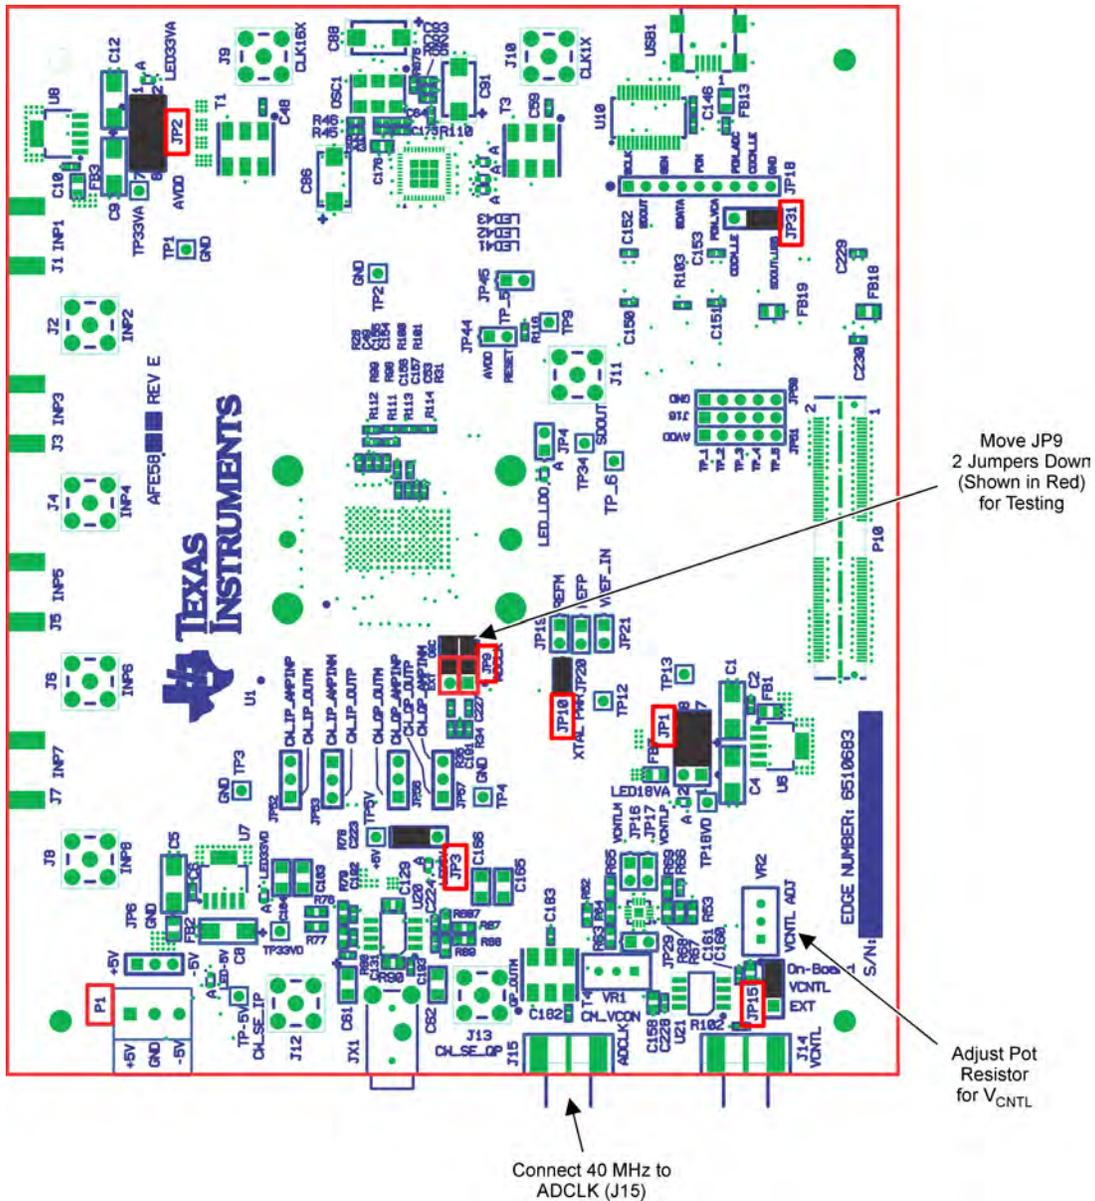

Figure 1. AFE5803EVM Basic Configuration
Figure 1 shows the default configuration of the EVM from the factory. The accompanying list identifies the basic components on the EVM board.
6. JP31 always set as Figure 1.
Two EVMs are required to evaluate the AFE5803 device. The following illustration shows the exact setup of these two boards and external connectors. For the default configuration as shown in Figure 1, it is unnecessary to have an external sampling clock and external Vcntl supply. The onboard CMOS clock and onboard Vcntl are used.
J1 through J8	Analog Input signals for Ch1 through Ch8. Connect to a signal generator. A bandpass filter must be applied between the generator and the SMA to get a better result. (See <a href="#">Figure 1</a> .)